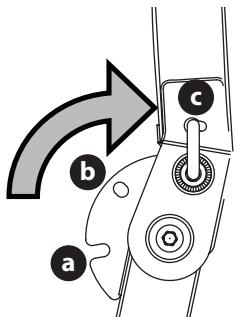

Figure 5
- Move the ROPS into the desired position (Figure 5).
NOTE: The three positions are TRANSPORT (a) position, TRANSPORT WITH BAGGER (b) position, and into the OPERATION (c) position (Figure 5).